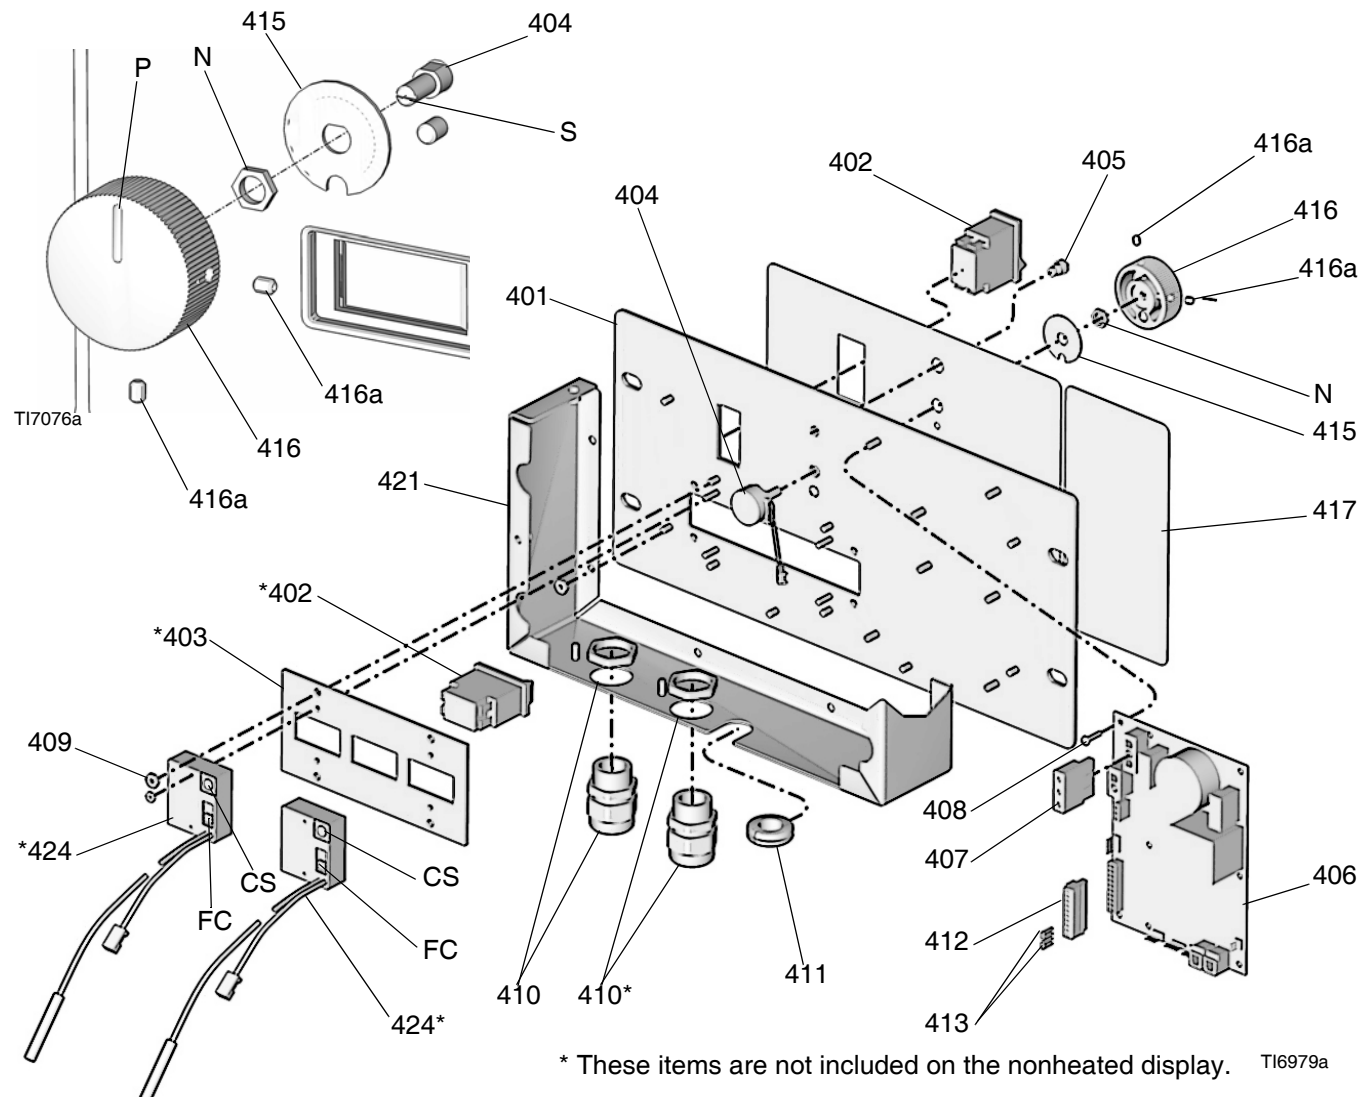
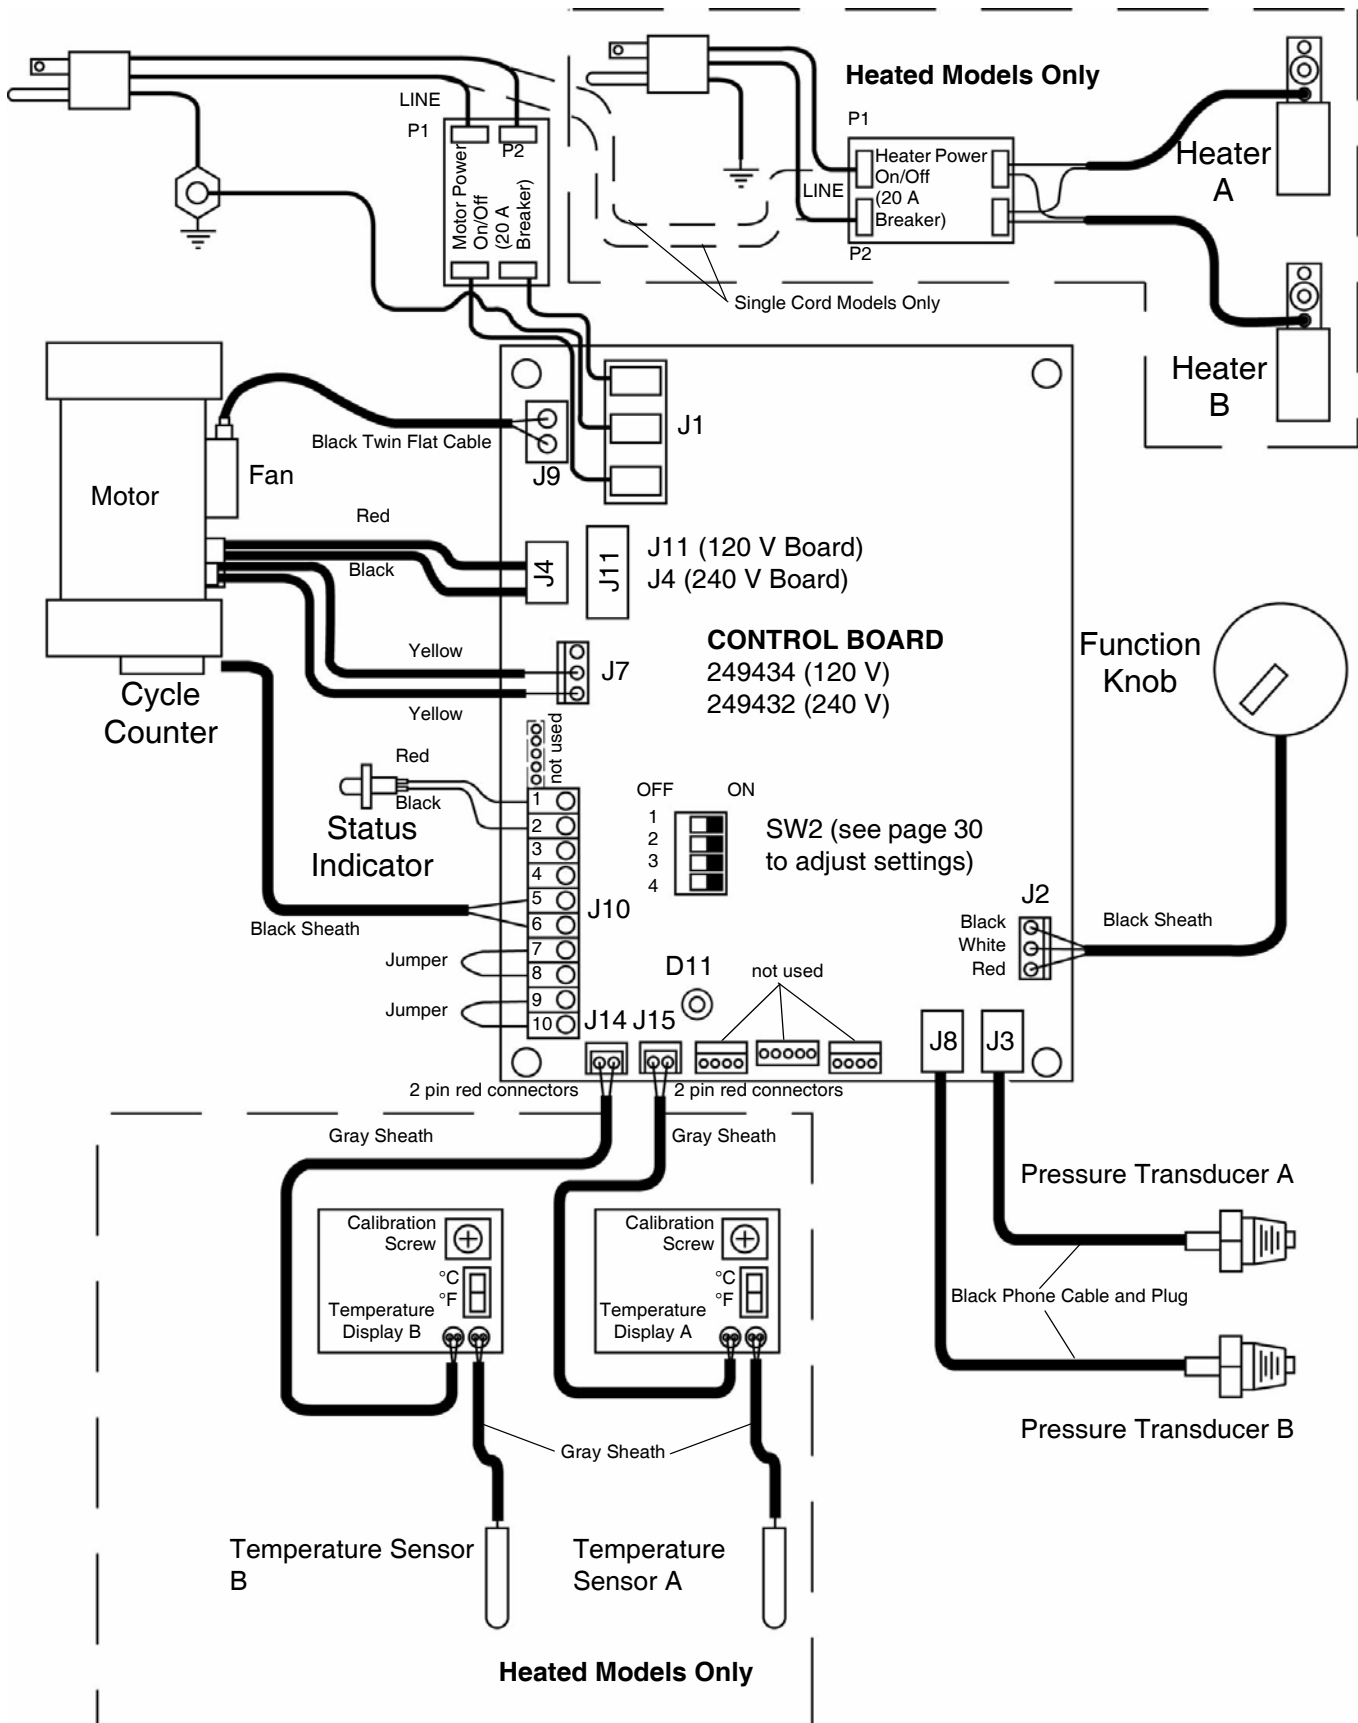

FIG. 13 Control Module (Heated Model Shown)
FIG. 14 Control Module Wiring Connections
2. Remove the access cover (39) from the back of the control module.
3. See FIG. 13, page 40. Locate the slide switch (FC) at the right edge of each temperature display board. The unit is shipped set to °F (down). To change to °C, move both switches to the up position.
1. Remove the access cover (39) from the back of the control module.
2. See FIG. 13, page 40. Locate the calibration screw (CS) at the upper right corner of each temperature display board. Turn the screw slightly to correct the temperature display.
3. Remove the access cover (39) from the back of the control module.
4. Disconnect the potentiometer wires from J2 on the control board (406). See FIG. 14, page 42.
5. See FIG. 13. Remove the two setscrews (416a) and pull the function knob (416) off of the potentiometer (404) shaft.
6. Remove the nut (N, part of 404) and the detent plate (415).
7. Install the new potentiometer (404) in reverse order. Position the potentiometer so the slot (S) is horizontal. Position the knob (416) so the pointer (P) faces up. Install the knob on the shaft so the slot (S) engages the alignment pin in knob. Push the knob onto the shaft against the detent spring before tightening the setscrews (416a).
8. Reconnect the potentiometer wires to J2 as shown in FIG. 14, page 42.
There is one red LED (D11) on the board. Power must be on to check. See FIG. 14 for location. Function is:
(see FIG. 14)
3. Remove the access cover (39) at the back of the control module to expose control board (406).
4. Disconnect the transducer cables from J3 and J8 at the board. See FIG. 14, page 42. Reverse A and B connections and check if the status code follows the bad transducer. See **Status Code 3: Transducer A Failure**, page 31.
9. Connect the transducer cable at the board; see FIG. 14, page 42.
If the motor is not locked up by pumps, it can be tested using a 9 V battery. Open the recirculating valves, disconnect J4 or J11 from the control board, see FIG. 14, page 42. Touch jumpers from battery to the motor connections. The motor should turn slowly and smoothly.
- a. Find the control board at the back of the control module, see FIG. 14, page 42.
1. Disconnect the fan cable (37) from the fan (202). With Motor Power on, test the cable connector for line voltage (120 V or 240 V).
2. **If voltage is correct:** the fan is defective. Remove the screws holding the fan to the shield (206). Install the new fan in reverse order.
3. **If voltage is not correct:** check the fan cable connection at J9 on the control board; see FIG. 14, page 42.